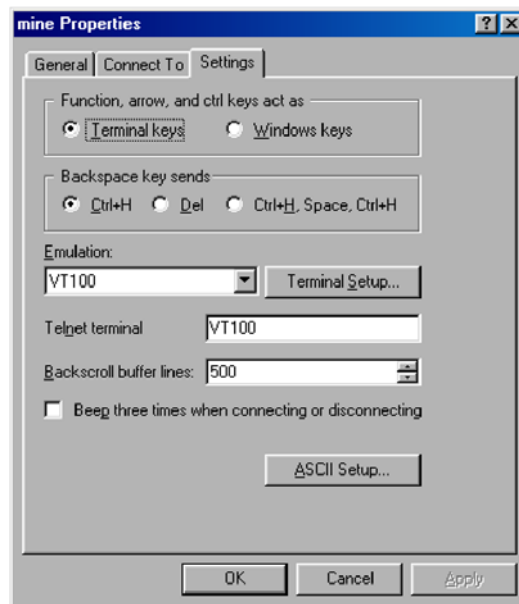

Figure 18. Terminal keys configuration
- Configure the settings for *Function, arrow and ctrl keys act as to Terminal keys* as shown in figure 18, then click **OK**.